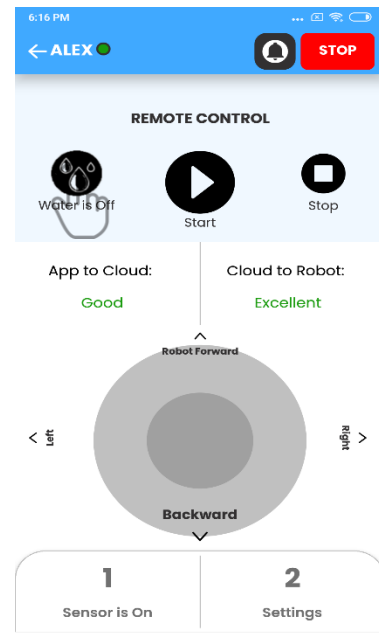

Fig. 6
6. Toggle this button to turn the water spray off if desired (Fig. 6). The button displays 'Water is Off' in its usual black color.